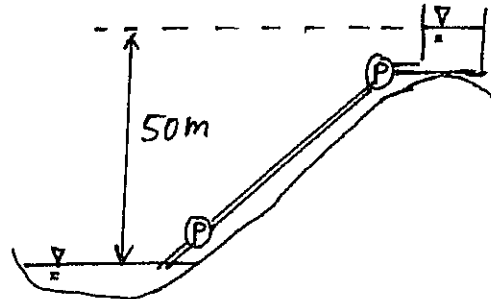

FIGURE 5
- 5) Water has to be pumped from a reservoir to a water tank on top of a hill, as shown in Figure 5. The length of the pipeline is 500 m and the water level in the tank is 50 m above the water level of the reservoir. The pipe has a diameter of 25 mm and a friction factor of 0.01. Only one type of pump is available in the area. This pump is tested at its operating speed and the results are given in Table 5. It is decided to use two of these pumps in series as shown in the figure, with one pump placed near the reservoir and one placed at the top of the hill.